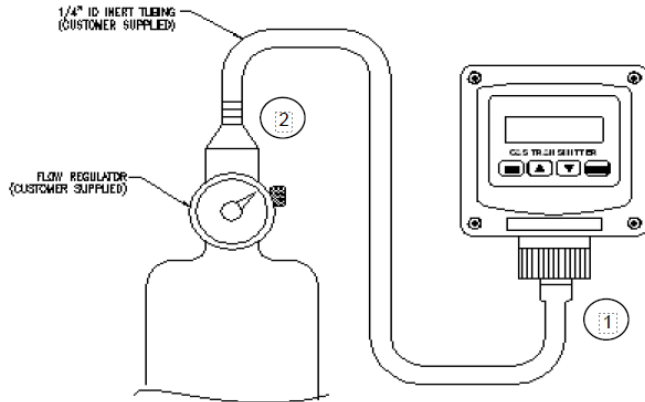

Figure 51: Sensor zero cal setup
Performing a zero calibration requires a bottled Zero-gas with a 500 cc/min regulator, calibration adapter and a convenient length of 1/4 inch tubing. The gas used depends on the type of sensor installed. For example, an H2S sensor may be zeroed with Zero-air, however, **oxygen sensors must be zeroed with nitrogen**. In some cases, a sensor may be zeroed directly to the atmosphere, but only when it is known to be free of reactive gasses. Check with the factory if you are uncertain about which gas to use. Referring to Figure 51, push the calibration adapter onto the exposed end of the sensor and connect one end of the tubing (1), connect the other end of tubing to the cylinder's regulator (2). Do not open the gas valve until instructed below.